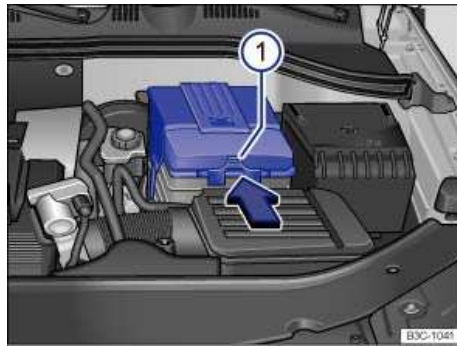

Fig. 170 In the engine compartment: On vehicles with a 2.0 liter engine, the vehicle battery is in the engine compartment.
- *Vehicles with 2.0 liter engines:* Press on the clip in direction of the arrow ⇒ fig. 170 \(1\) and remove the cover upward.